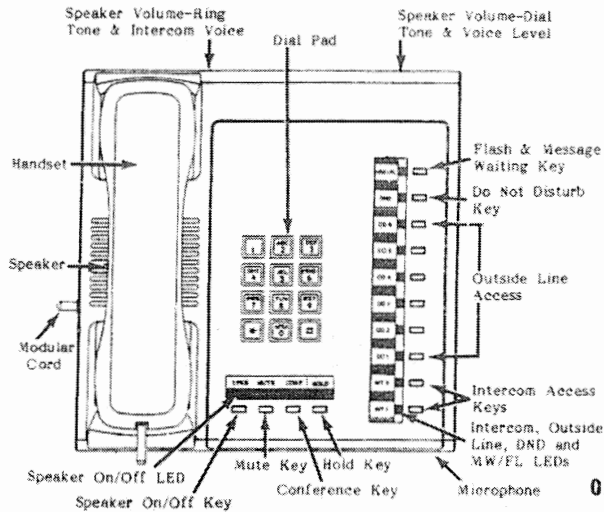

FIGURE 3
01.13 The STRATA VI Electronic Key Telephone (EKT) (Figure 3) measures: